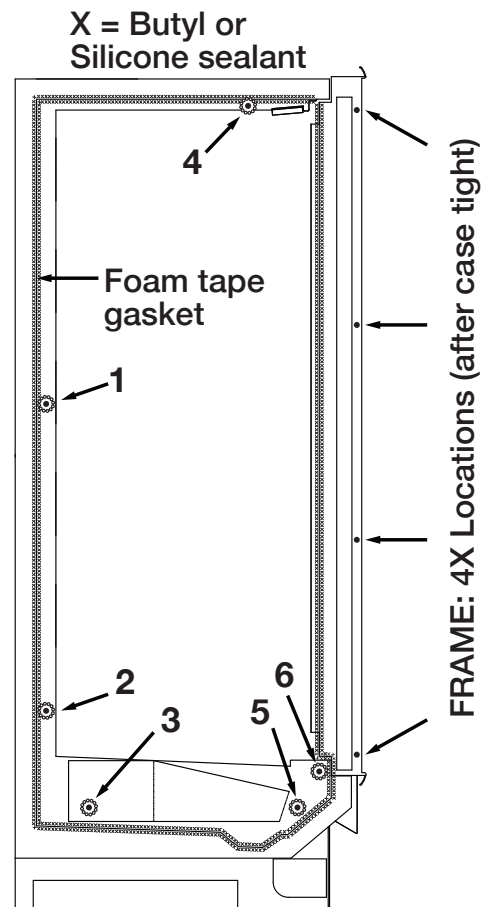

Fig. 44 Bolt holes, foam tape gasket, and sealant
6. Push the cases tightly together, then lightly bolt them together through the six holes (Fig. 44). Tighten all the joining bolts until all margins between the cases are equal.